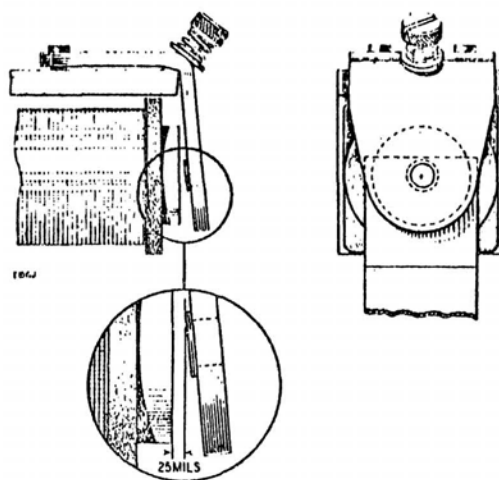

FIG. 5. MEASURING ARMATURE TRAVEL
**9. Armature travel.**—This is the distance between the striking face of the residual stud and the core (see Fig. 5). The standard travel is 25 mils.
**11.** When measuring an armature travel, a feeler-gauge of the minimum re-adjust value (normally 23 mils) should be inserted between the striking face of the residual stud and the core (see Fig. 5). A slight movement should be felt in the armature—in the direction of the core—when an attempt is made to operate the armature by hand. If the gauge of the maximum re-adjust value (normally 27 mils) is inserted in the manner indicated above, movement should not be felt. When making these tests, the gauge should not be inserted so far that it reaches the minimum gap where residual measurements are